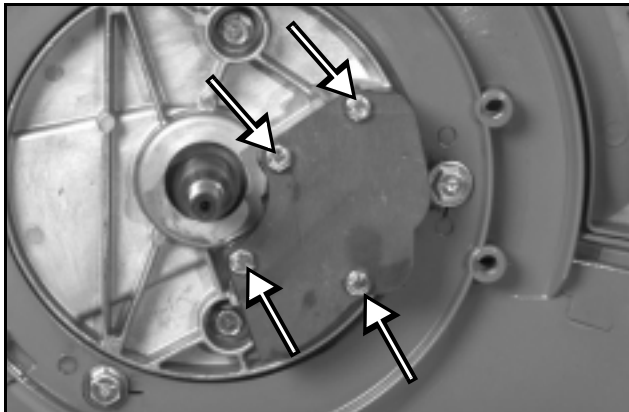

Figure 7
2. Remove the cover and the exhaust pipe under the cover. (See Figure 7.)